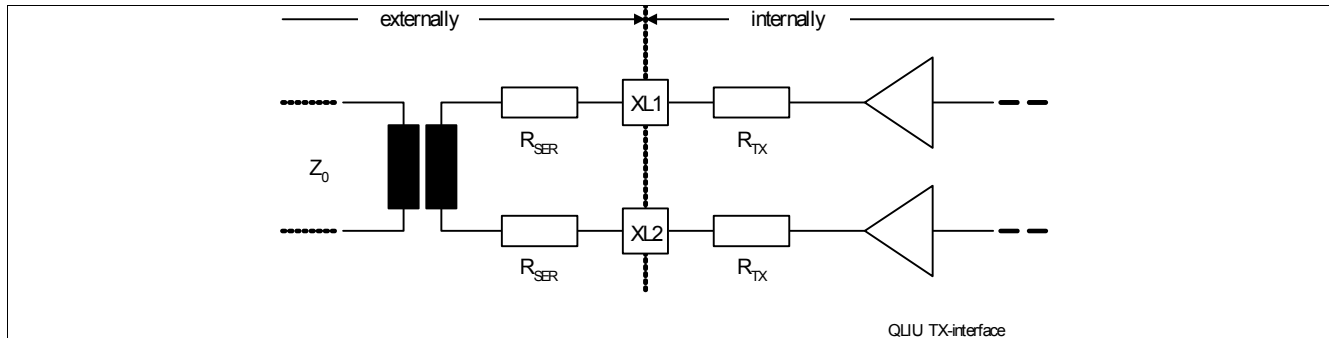
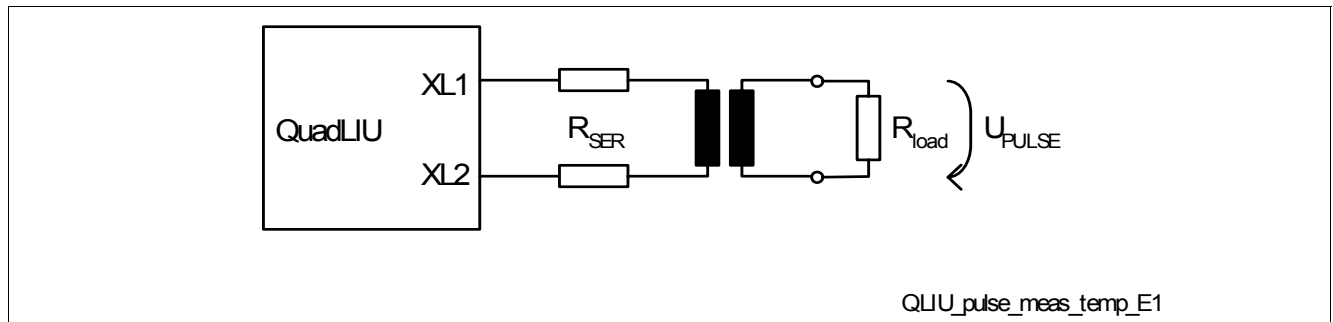
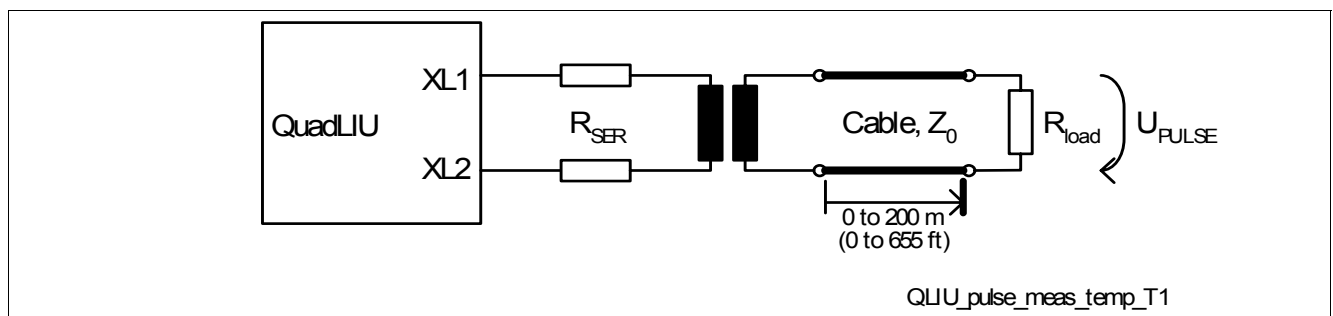

Figure 37 Transmit Line Interface
Figure 39 Measurement Configuration for E1 Transmit Pulse Template
Figure 40 Measurement Configuration for T1/J1 Transmit Pulse Template
The transmit line interface includes two integrated serial resistors R_{TX} as shown in Figure 37. Two application modes are possible:
- For T1: FCC68; ANSI T1. 403 1999, figure 4; ITU-T G703 11/2001, figure 10 (for different cable lengths), see Figure 64 and Figure 40 for measurement configuration were $R_{load} = 100 \Omega$
- For E1: ITU-T G703 11/2001, figure 15 (for 0 m cable length) see Figure 63; ITU-T G703 11/2001, figure 20 (for DCIM mode), see Figure 39 for measurement configuration were $R_{load} = 120 \Omega$ or $R_{load} = 75 \Omega$
The given values are optimized for transformer ratio: 1 : 2.4 and cable type AWG24 using transmitter configurations listed in Table 28 and shown in Figure 37. The measurement configurations of Figure 39 with $R_{load} = 120 \Omega$ and Figure 40 with $R_{load} = 100 \Omega$ are used.
The given values in **Table 31** and **Table 32** are optimized for transformer ratio: 1 : 2.4; cable: AWG24 and configurations listed in **Table 28** and shown in **Figure 37**.